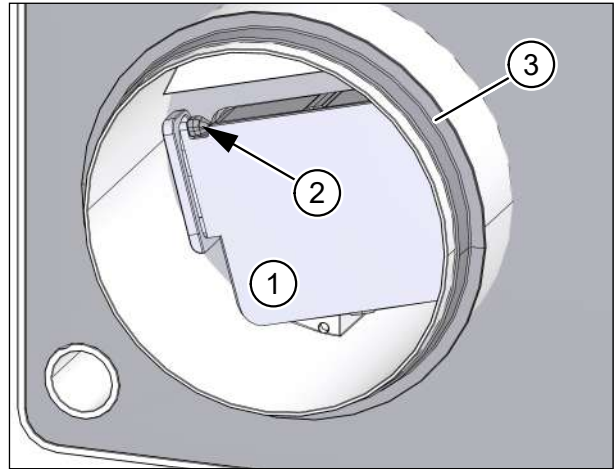

Fig. 34: Checking the air flap on the exhaust air spigot and seals
- ▶ Check that the air flap (item 1 in Fig. 34) on the exhaust air spigot is correctly seated in the holder (item 2 in Fig. 34).
- ▶ Check that the seals (item 3 in Fig. 34) around the air spigots on the back of the ventilation unit are undamaged. Damaged seals should be replaced immediately.
- For ease of installing the unit (see section 11.6 on page 36), you can apply washing-up liquid or Vaseline to the seals (item 3 in Fig. 34) on the air spigots.